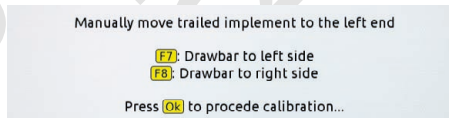
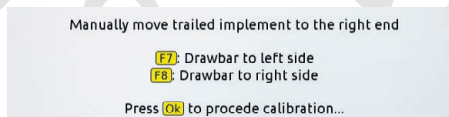

Fig. 43
Fig. 44
- 4 Record the **S2** angle value (Fig. 43).
- 6 Record the **S2** angle value (Fig. 44).
- 2 The messages in Fig. 43 and Fig. 44 will be displayed: follow the instructions shown for both screens.